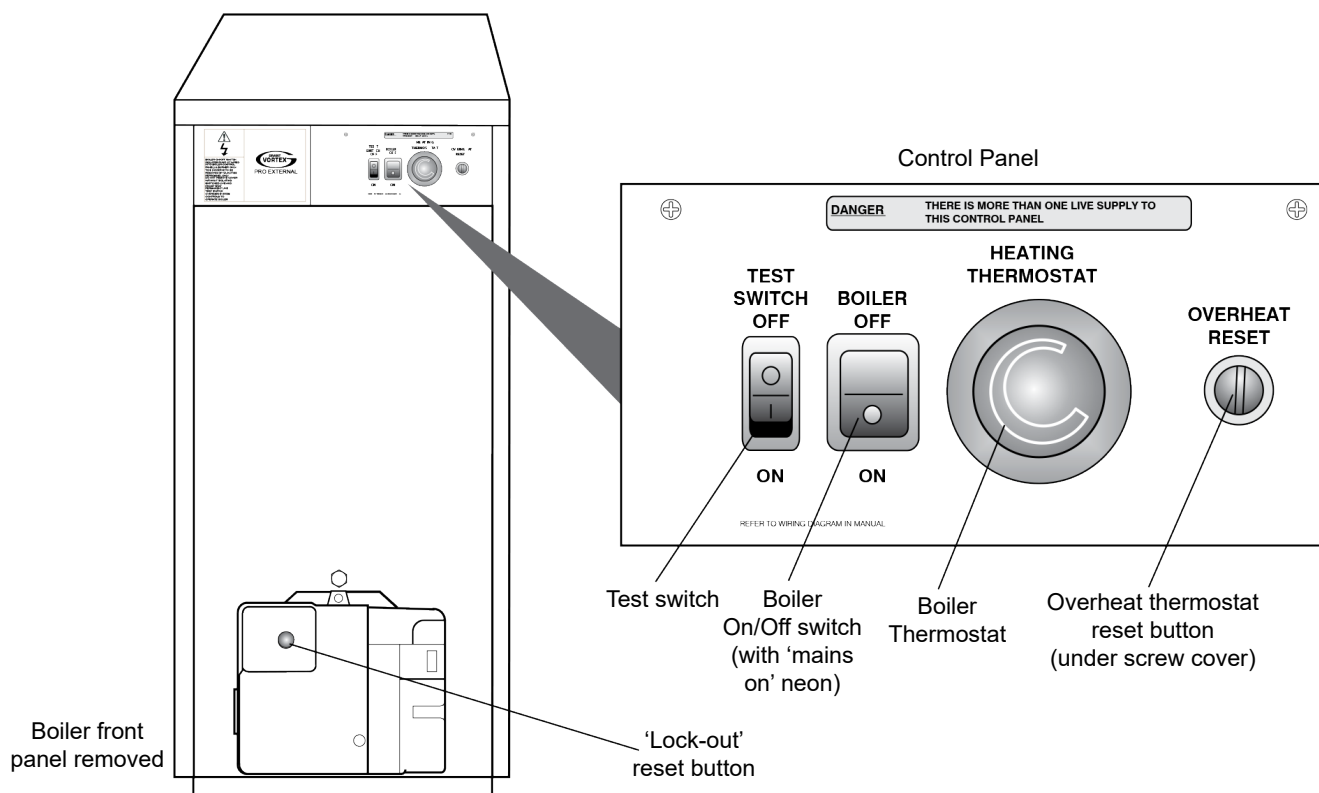

Figure 1-1: Vortex Pro External boiler control panel and reset button
Grant Vortex Pro External boilers have a 'mains on' neon, see Figure 1-1, which lights when the boiler is switched on.
To gain access to the boiler controls, remove the front casing door by turning the handle at the bottom anti-clockwise, pulling the door out at the bottom and withdrawing it from the casing to reveal the boiler controls as shown in Figure 1-1.
4. Check if the burner 'Lock-Out' reset button on the burner body (refer to Figure 1-1 for location) is lit.
Refer to Figure 1-1 for the location of the control panel within the boiler casing and for the details of the control panel.
To reset the overheat thermostat, unscrew the small plastic cap marked "overheat reset" (see Figure 1-1), press the button and replace the cap.
A test switch is fitted to the control panel (see Figure 1-1) to allow the Service Engineer to test-fire the boiler without requiring access to the inside of the property.